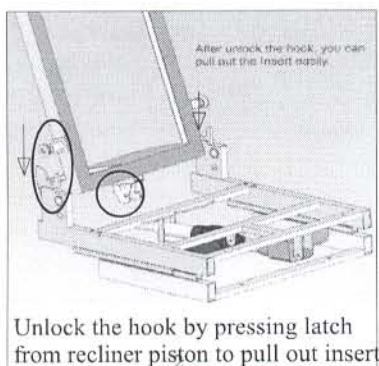

Fig.1
1. Make a hole ( size 1-3/8") for the On/Off switch as shown (see fig 1). Pre-drill required.
- \* On the lower portion of both side of the backrest, there are pivots (Fig.1)
- \* Figure 1: shows Pivot and "U"pivot frame at correct alignment / be sure to clear wire